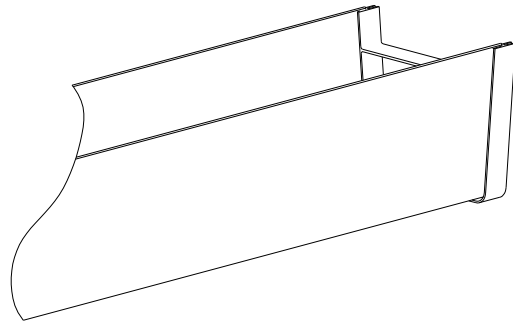
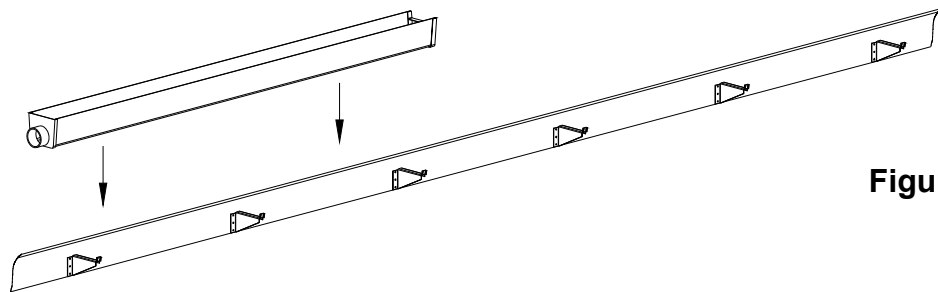

Figure 13
Figure 14
7. Using the Paste PVC Cement, apply the cement to one of the gutter connectors by completely filling the groove of the gutter connector. Place a section of gutter into the groove of the gutter connector. Make sure the gutter section is in the gutter connector as far as possible (see Figure 13) and hold to allow for initial set up of the cement (approximately 1 to 2 minutes)
9. Care should be taken when working with the sections with the end caps and gutter connectors installed. The joints will be fragile until their full cure time. Place the first gutter section with end cap and gutter connector into the gutter brackets as shown in Figure 14. Apply the Paste PVC Cement to the gutter connector on the end of the gutter section. Place the next section of gutter into the gutter brackets and into the groove of the gutter connector. Make sure the gutter section is in the gutter connector as far as possible (see Figure 13) and hold to allow for initial set up of the cement.